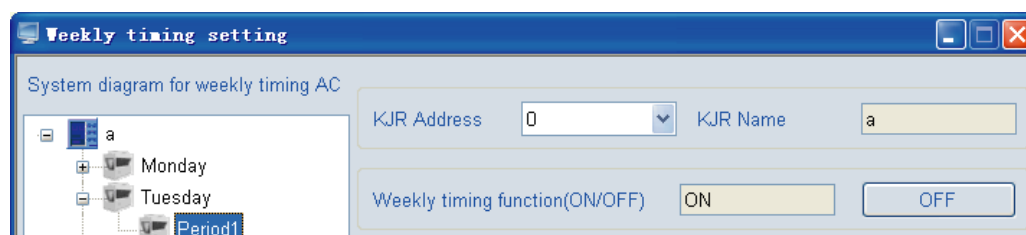
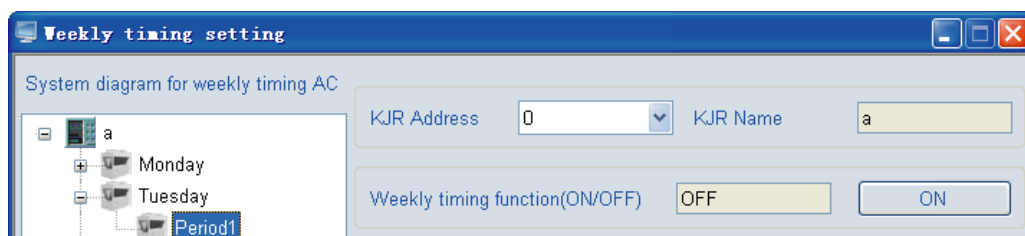
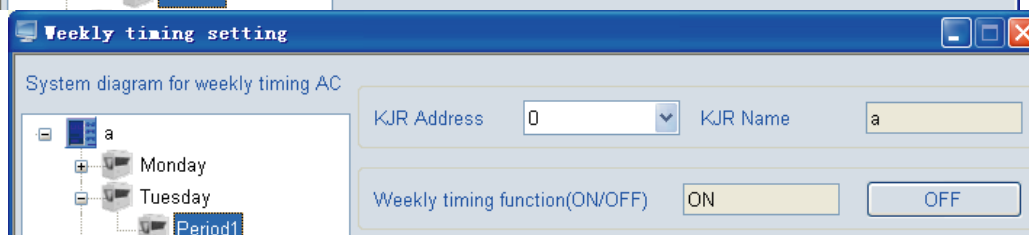

Fig.4-30
Fig.4-31
Fig.4-32
- d、Timing ON/OFF key for controlling the weekly timing wired controller (See the ① key in the figure) —— when Weekly Timing Function is ON, the key shows OFF (see Fig. 4-30), once click the key, all weekly timing function would be turned off, and then the Weekly Timing Function displays OFF, while the key shows ON (see Fig. 4-31); when Weekly Timing Function is OFF, the key shows ON (see Fig. 4-38), once click the key, all weekly timing function would be turned on, and then the Weekly Timing Function displays ON, while the key shows OFF (see Fig. 4-32)